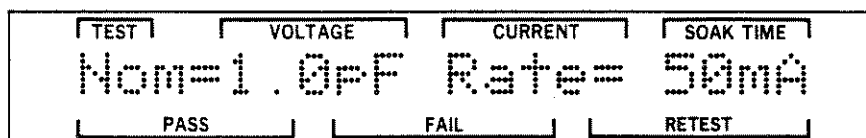

Figure 3-24. Nominal Capacitance and Charge Rate Screen
STEP 5. Press the LEFT pushbutton to return to the Bin Count Totals screen. Press the UP or DOWN pushbutton three times to display the Nominal Capacitance and Charge Rate screen. Figure 3-24 is an example of this screen.